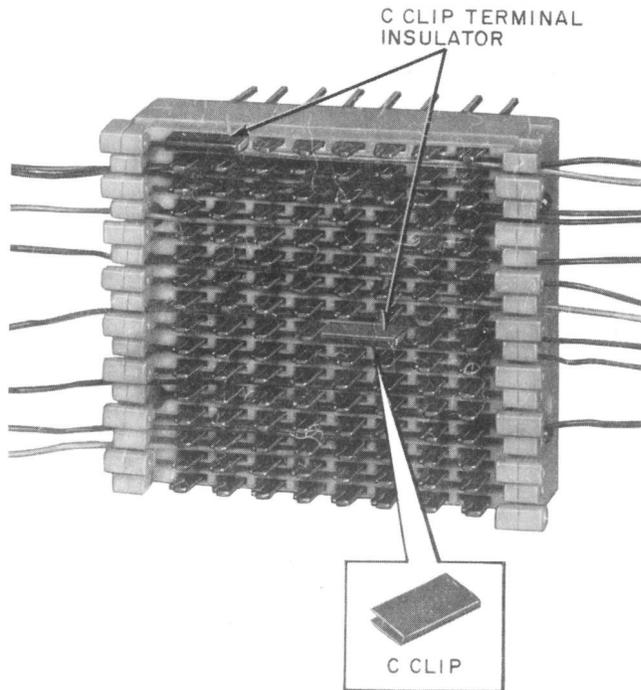

Fig. 4—Protection of Terminal Punchings—Special Service Lines—C Clip-Terminal Insulator as Used on 66G or 78A1 Connecting Block
4.04 On ESS distributing frames equipped with 66G, 66H, or the 78-type (quick connect) connecting blocks, terminals associated with special service lines are protected and identified by the use of C or D clip-terminal insulators (Fig. 4 and 5). These insulators are red plastic clip-on type to protect both tip and ring terminals. One insulator is used to protect each pair. The C or D clip-terminal insulators are used as follows:
- (1) C clip-terminal insulator for use on 66G or 78A1 connecting blocks (Fig. 4)